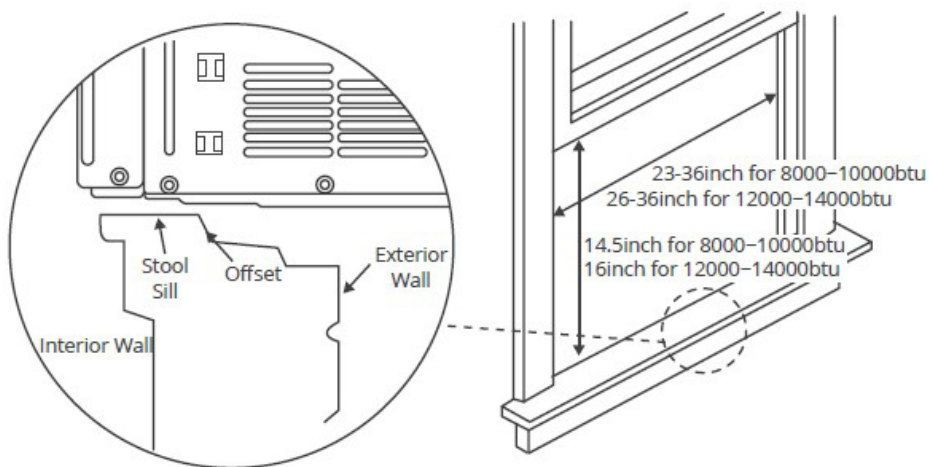

Fig.1
- The Lower Sash (the lower part of the window that moves up and down) must allow for 14.5" of vertical clearance when open, for 8000btu~10000btu. (See Fig.1), or for 16" of vertical clearance when open, for 12000btu~14 000btu. (See Fig.1).